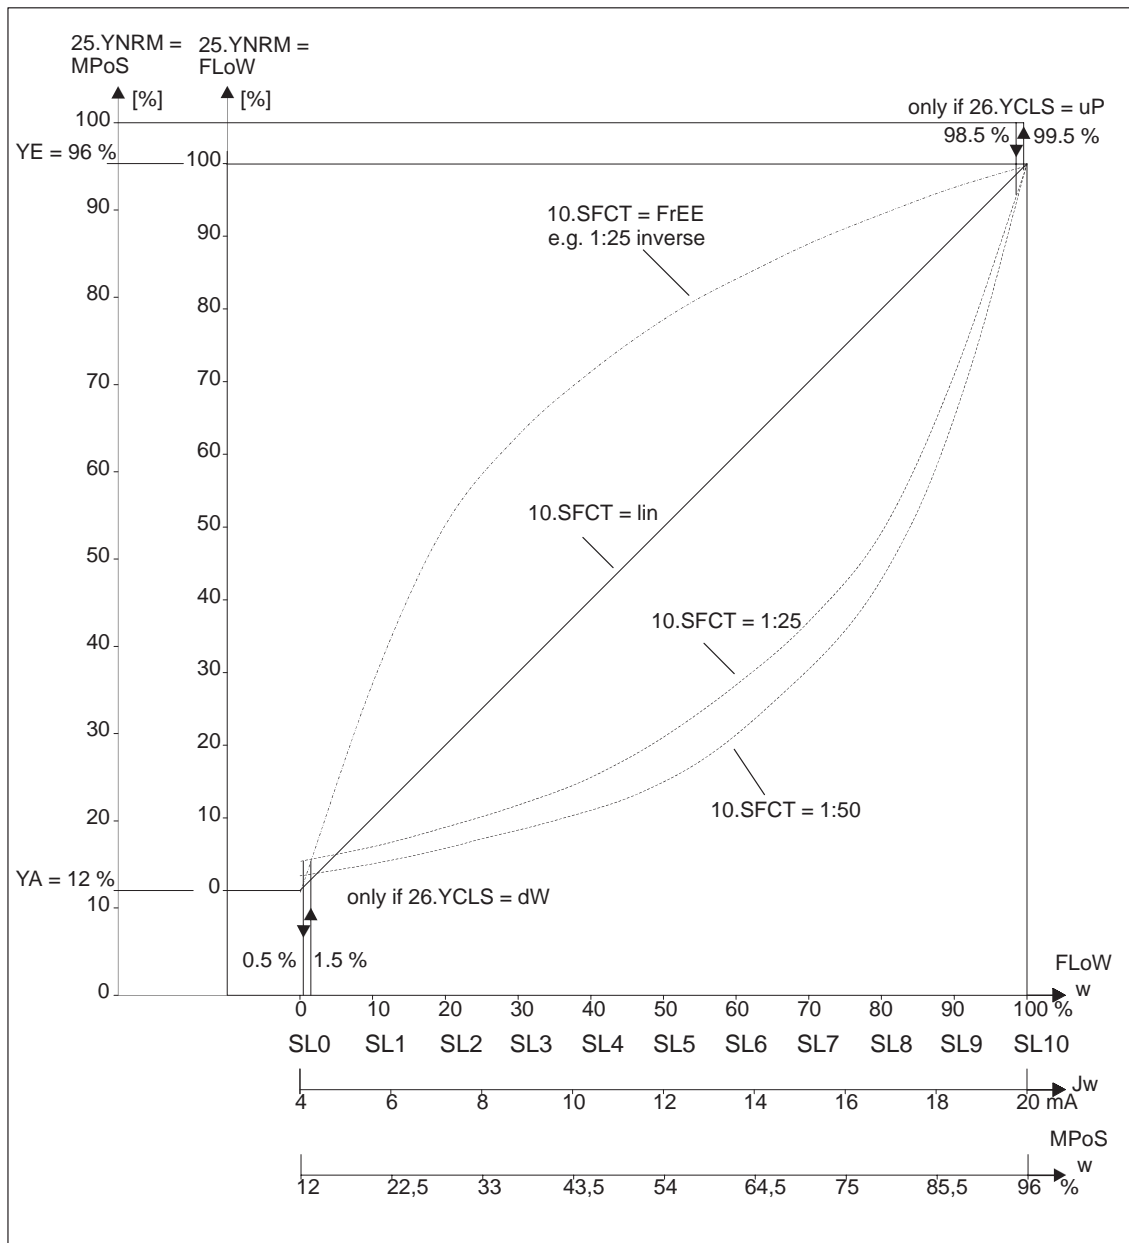
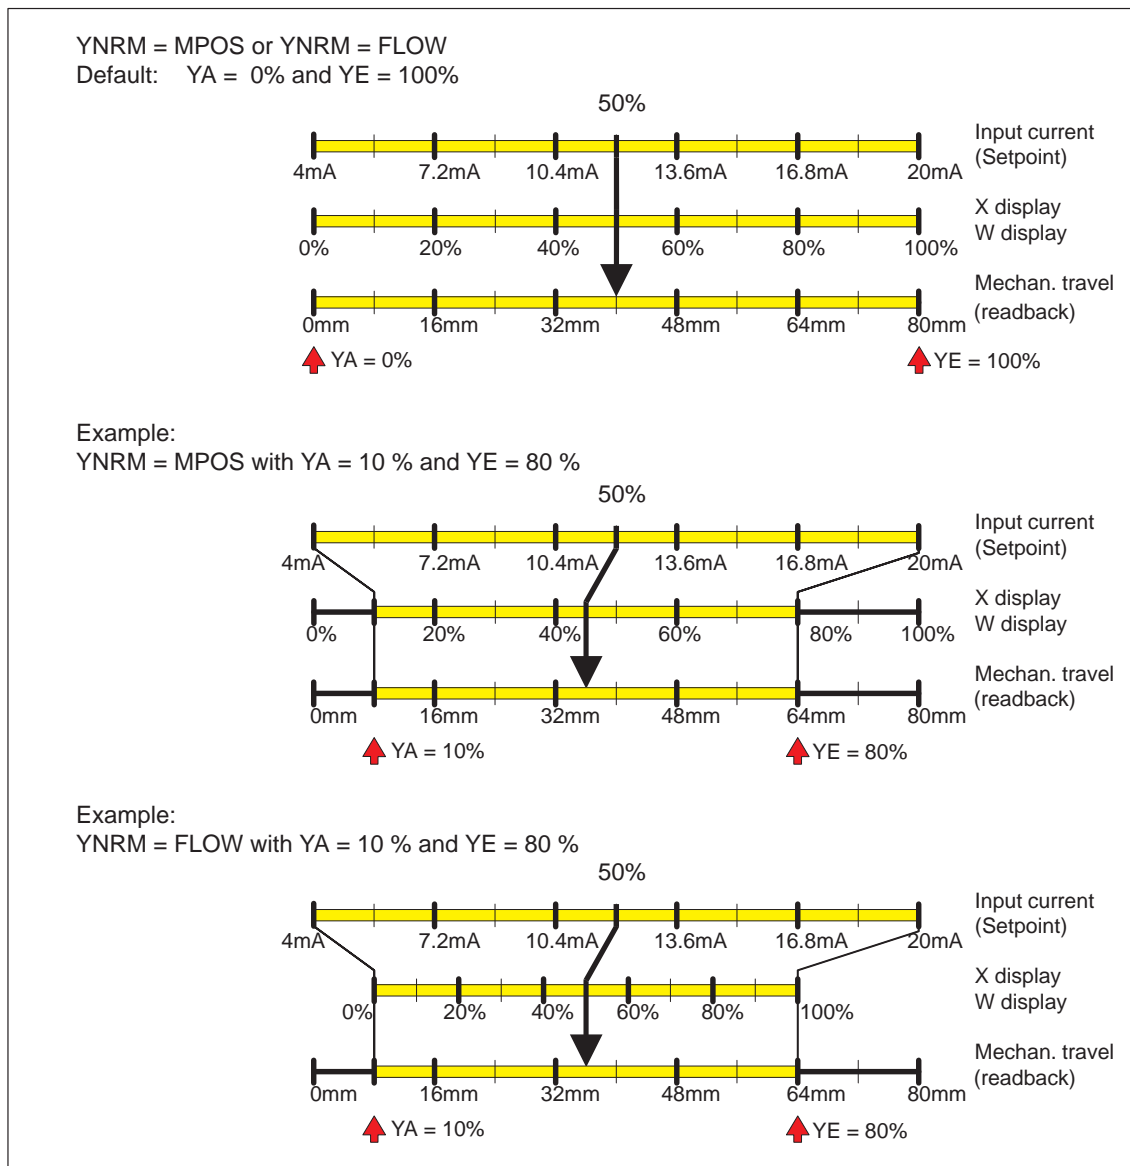

Figure 4-6 Setpoint characteristics, normalization of the manipulated variables and tight sealing function
Figure 4-7 Dependence of travel on normalization and YA and YE as shown by an 80 mm linear actuator
10.SFCT**Setpoint function (see Figure 4-6)**
Setpoint turning points (see Figure 4-6)
23.YA	<p>Start of manipulated variable limiting (see Figure 4-6 and Figure 4-7)</p> <p>and</p>
24.YE	<p>End of manipulated variable limiting (see Figure 4-6 and Figure 4-7)</p> <p>With parameters 23.YA and 24.YE the mechanical travel (from stop to stop) is limited to the set values. In this way the mechanical correcting range of the actuator can be limited to the active flow and integral saturation of the leading controller can be avoided.</p>
25.YNRM	<p>Normalization of manipulated variable (see Figure 4-6 and Figure 4-7)</p> <p>Limiting the manipulated variable (by YA and YE) produces two different scales (MPOS and FLOW) for the display and the position feedback via the current output.</p> <p>The MPOS scale shows the mechanical position (0 to 100 %) between the hard stops of initialization. This is not affected by parameters YA and YE. Parameters YA and YE are displayed in MPOS scale.</p> <p>The FLOW scale is the normalization (0 to 100 %) to the range between YA and YE. The setpoint w (0 to 100 %) always refers to this range. This results in a display and position feedback Jy that are more or less proportional to the flow (even if valve characteristic curves are used).</p> <p>In order to calculate the system deviation the setpoint is also displayed in the relevant scale.</p>
Tight sealing with manipulated variable (see Figure 4-6)
30.AFCT	<p>Alarm function</p> <p>The drive can report exceeding (max) or dropping below (min) a preset stroke or angle of rotation. Alarm response (limit contacts) refers to the MPOS scaling (see Figure 4-7). Alarm signals are output via the alarm module (Order No. 6DR4004–6A or –8A). The alarms can also be read out via the HART interface (Order No. 6DR4004–6H or –8H).</p> <p>The direction of action of the binary outputs can be adapted from high active to low active subsequent systems.</p>